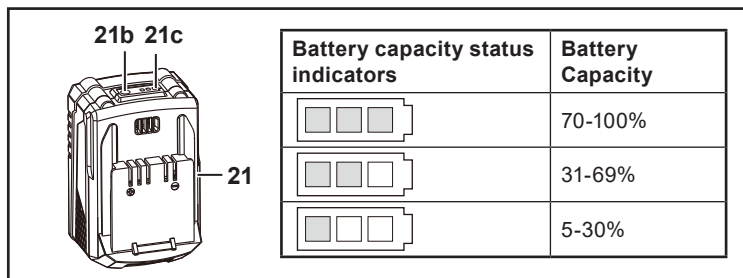

Fig. 9
The battery packs (21) are equipped with the battery capacity indicators (21c) which are used to give an indication of the battery pack's remaining capacity. Press and hold the battery capacity button (21b) to check battery capacity (Fig. 9). The LEDs will stay lit while the battery capacity button (21b) is being pressed.